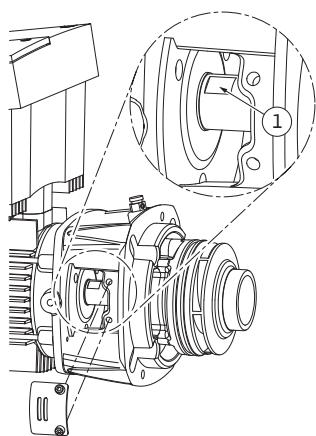

Fig. 52: Wrench flats on the shaft
24. During the assembly of the impeller, put an open-end wrench (22 mm is the best width across flats) into the lantern window and hold the shaft steady with the wrench surfaces (Fig. 52, Item 1).